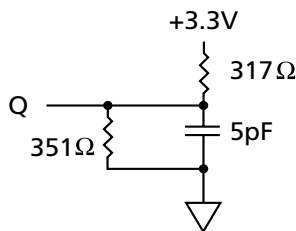
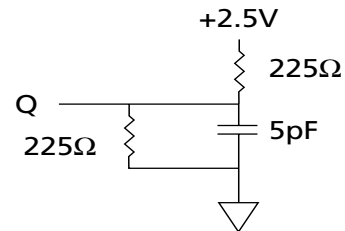

Figure 2
Figure 4
4. The load used for V_{OH}, V_{OL} testing is shown in Figure 4 for 2.5V I/O. AC load current is higher than the shown DC values. AC I/O curves are available upon request.
3. This parameter is measured with output load as shown in Figure 2 for 3.3V I/O and Figure 4 for 2.5V I/O.